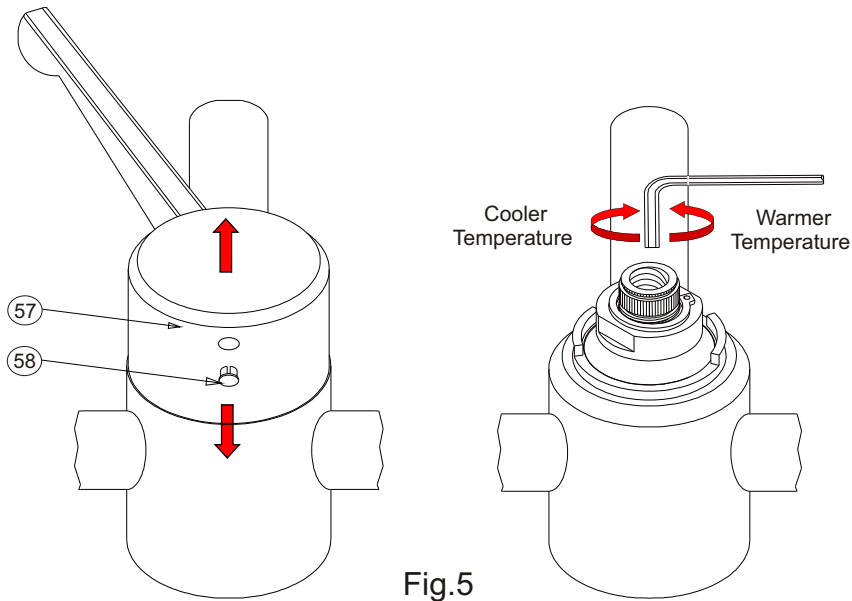

Fig.5
Due to variations in supply parameters from those used to set and test the products in our factory the outlet temperature will require resetting on site. The temperature will need to be set between 39°C and 41°C in order to comply with TMV3 approval this is done by fully opening the valve, using a thin blade remove the targa button (58). Then inserting a 2.5mm hexagon wrench into the holes and unscrewing a 5mm grub screw, the lever (57) can be lifted showing the adjusting screw. Using a 2.5mm allen key and turning the screw clockwise will give a cooler temperature and anti clockwise for a warmer temperature see Fig. 5.